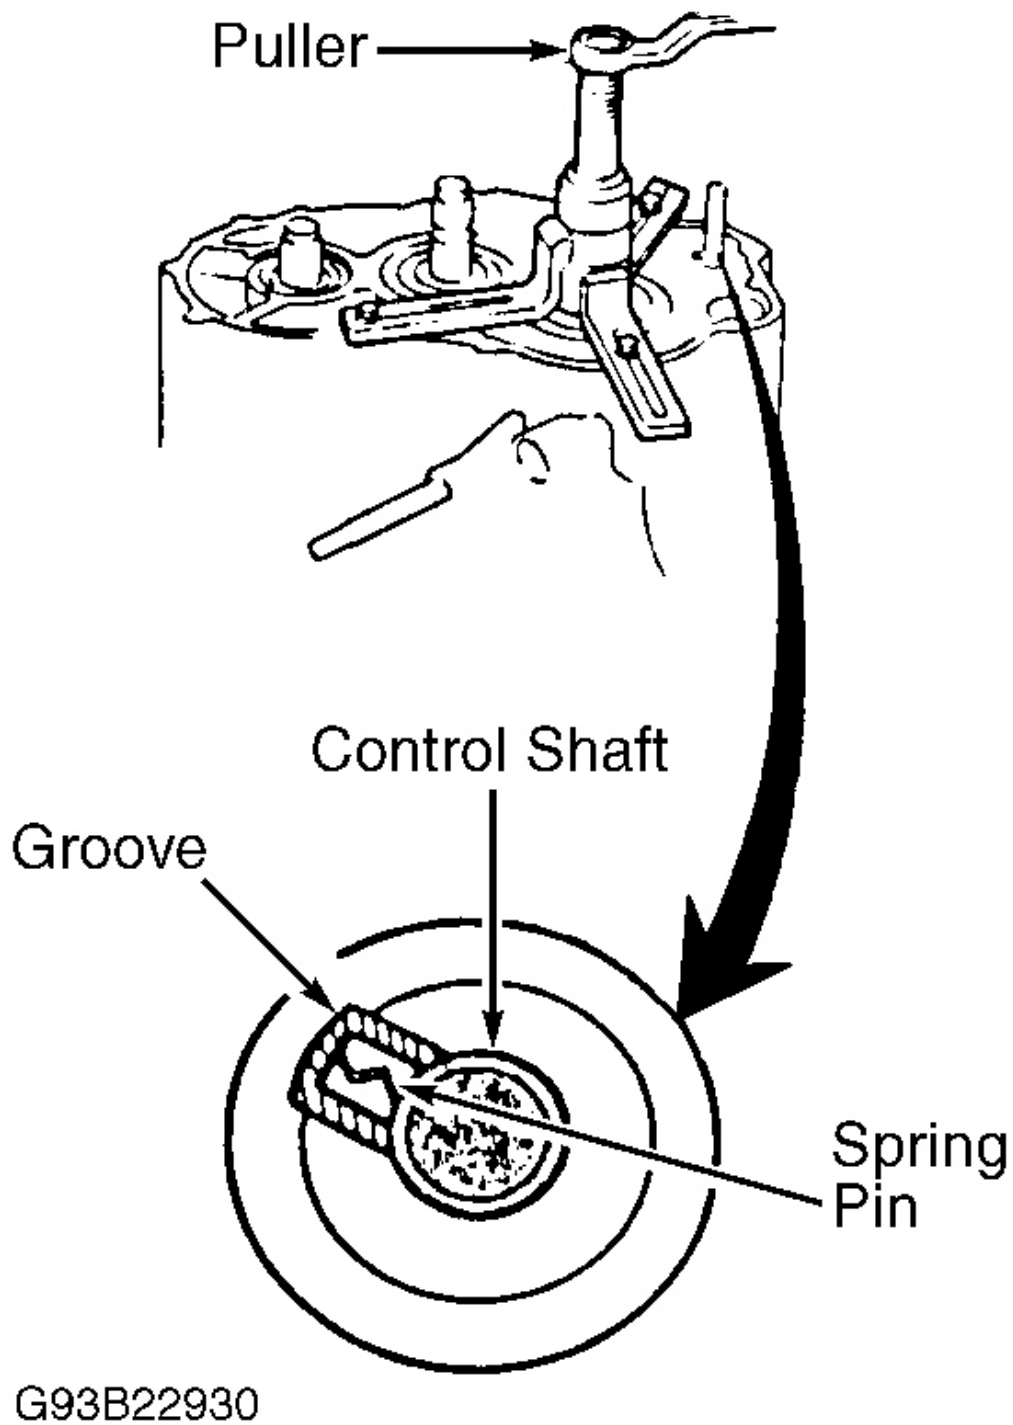

Fig. 9: Aligning Spring Pin & Removing Transaxle Housing
7. Remove mount bracket from transaxle housing. See **Fig. 8**. Remove transaxle housing bolts. Align spring pin with groove in transaxle housing by rotating control shaft. Using puller (07HAC-PK4010A), remove transaxle housing. See **Fig. 9**.
CAUTION: When removing reverse idler gear holder from reverse idler, **DO NOT** allow needle bearing to come off reverse idler gear holder end. A steel ball and spring are located below needle bearing, on reverse idler gear holder. See **Fig. 9**.